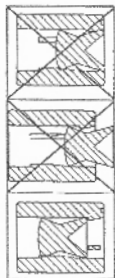

Fig.13
- through the oval opening successively load any empty container in the magazine with only one pellet in each container up to 22 pellets all together in any sequence and alternation (for best firing results it's recommended to load magazine with the same type of pellets). In doing so strictly observe correct positioning of pellets in the containers, as shown in Fig.13. Place the loaded magazine back in the pistol until a click of the magazine pawl is heard.